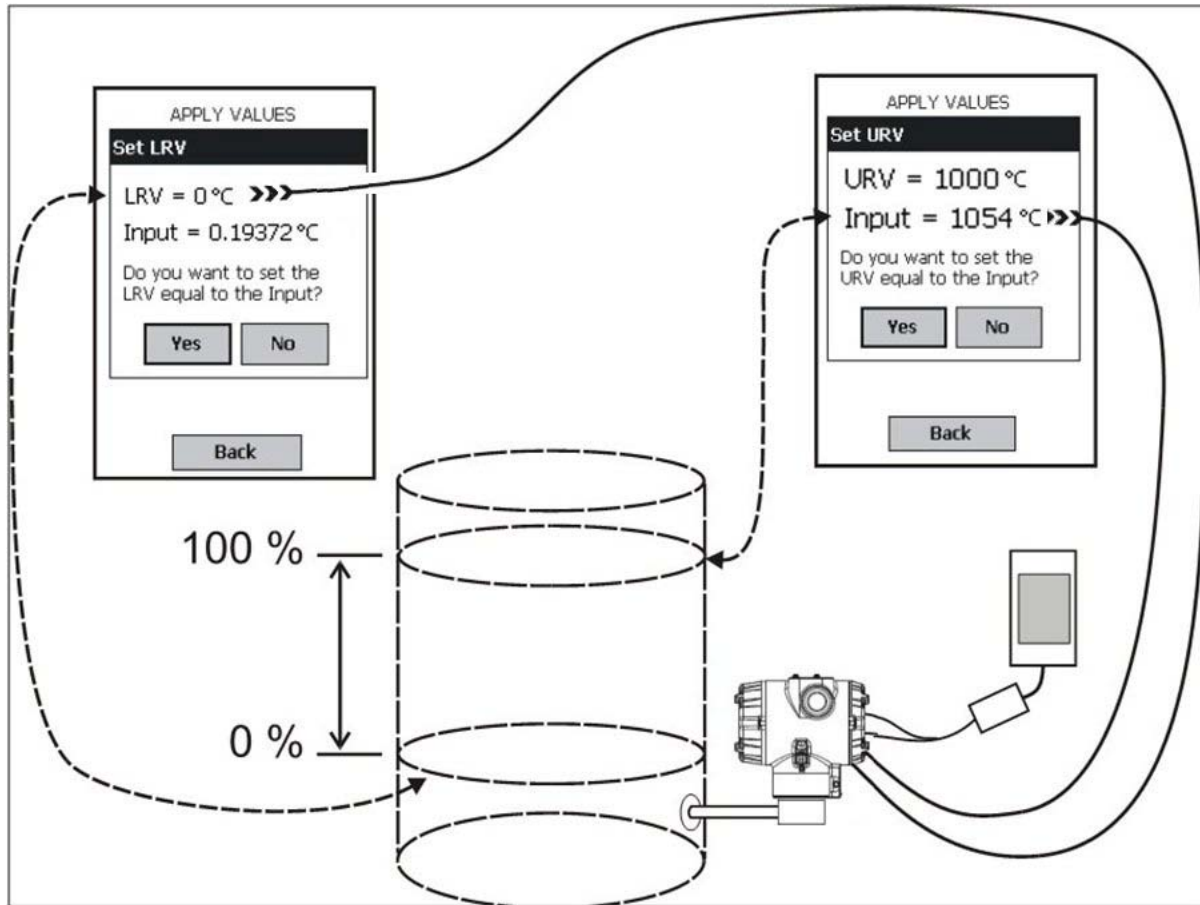

Figure 21 - Setup to manually set the PV LRV and URV
1. Connect the MCT404 Toolkit across loop wiring, and turn it on. See Figure 21 for a sample test equipment hookup.
1. See Figure 21 for typical test connections. Connect the power supply and communicator to the signal terminals of the Transmitter terminal block.